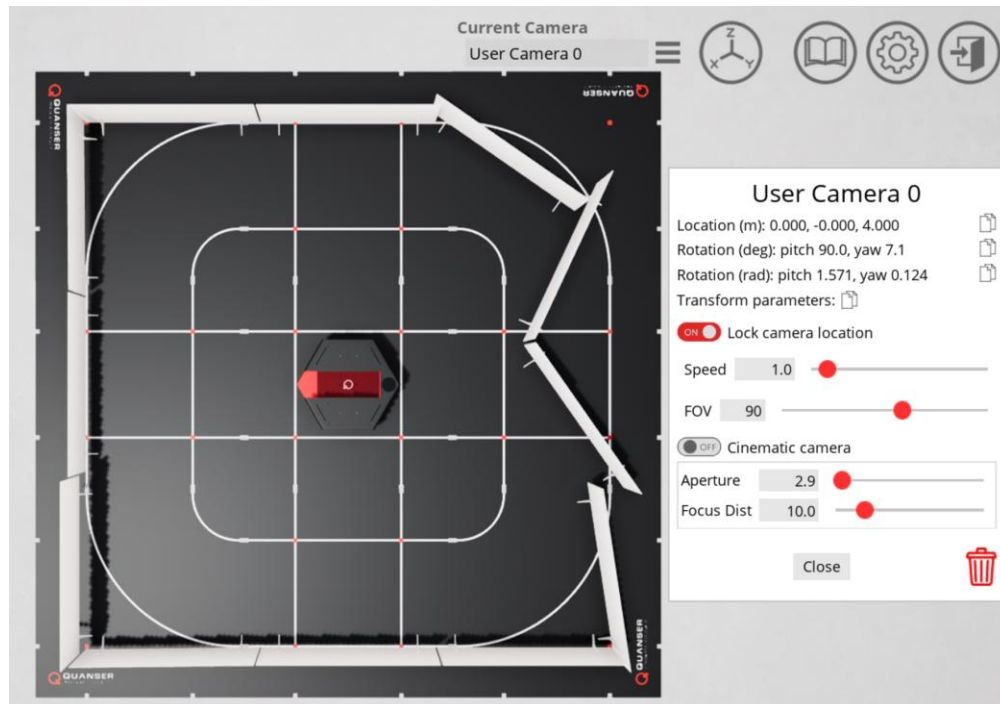

Figure 1: Successful set up of the Quanser Interactive Labs Workspace
4. Open and run the script sensor_fusion.py. Verify that the script ran successfully by checking that the QBot and other elements have been spawned within the virtual environment in Quanser Interactive Labs, as shown in Figure 1. Open the camera menu by clicking the  icon and set the Lock camera location to the "On" position. Press the "U" key to stop the script.